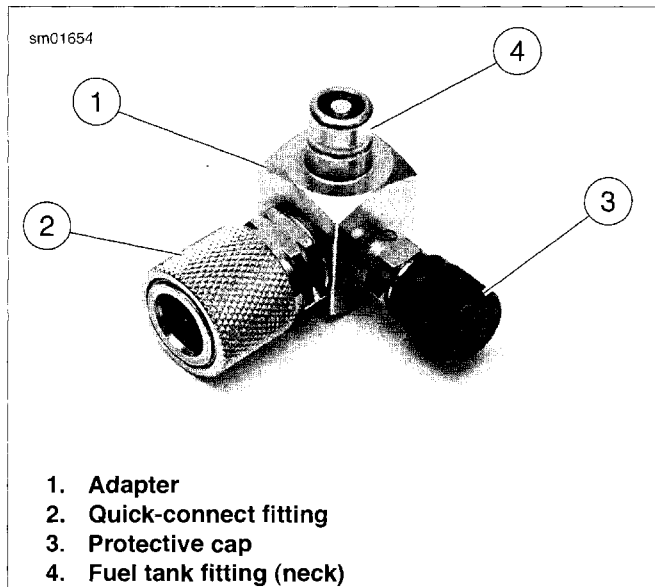

Figure 4-84. Fuel Pressure Gauge Adapter (Part No. HD-44061)
3. See Figure 4-84. Attach FUEL PRESSURE GAUGE ADAPTER (Part No. HD-44061) (1) as follows:
5. See Figure 4-84. Remove protective cap from free end of fuel pressure gauge adapter. Connect fuel pressure gauge to Schroeder valve.